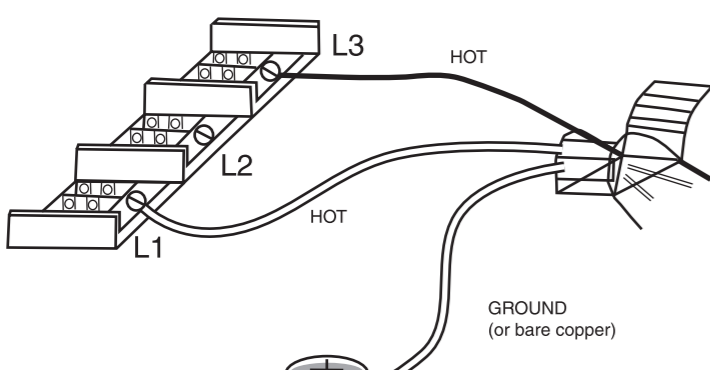

Figure 7
- Pull the enough properly sized wire through cable connector and connect the wire to the power block located in the base of the heater (see Figure 7).